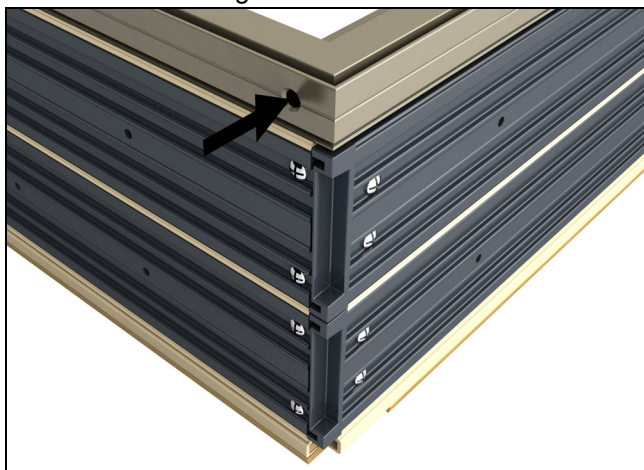

Figure 124
4. Do not install screw into frame cladding miter at this time. See figure 124.